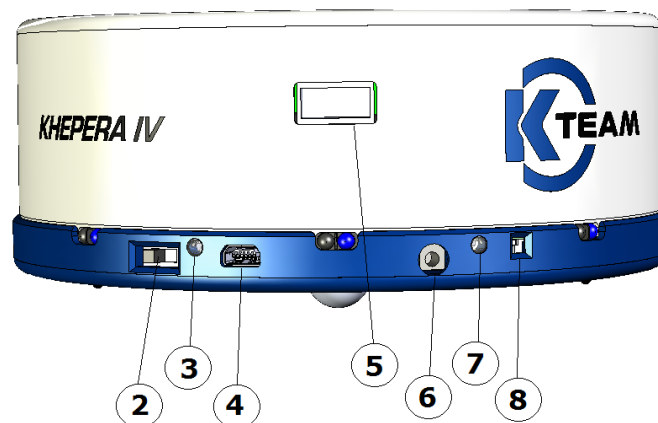

Figure 3.2 : Rear view
- 1) Plug the USB cable to the computer, and the mini-USB side to the robot (connector 4 of figure 3.2).
The robot reset can be triggered by pressing the reset button (see Figure 3.2).